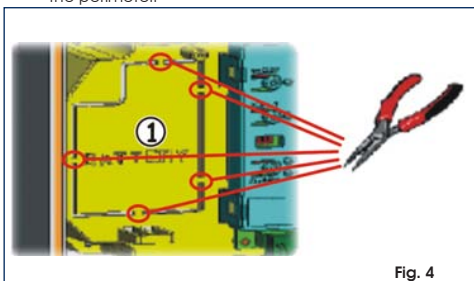

Fig. 4
This support (Fig.4 ref. ①) was pre-moulded to permit the battery housing to be opened.